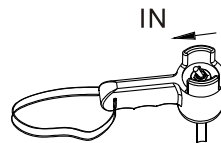

figure 12
- ◇ When wire rope goes in, the switch trigger is in the position of "In" (See figure 12).